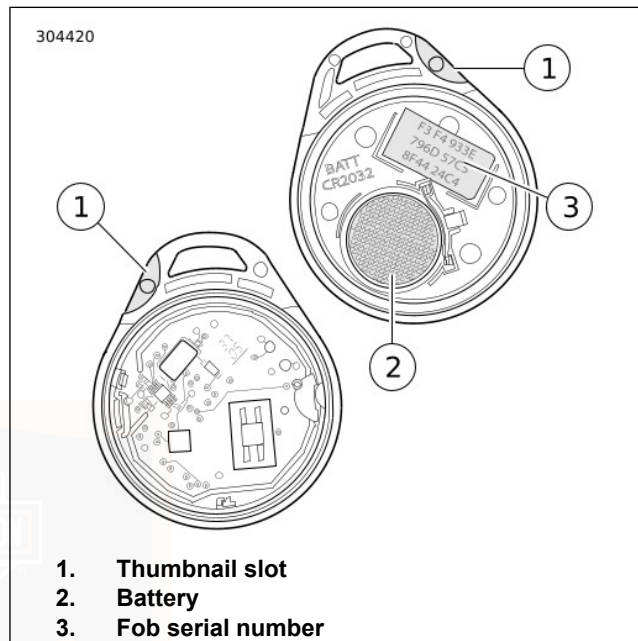

Figure 43. Hands-Free Fob Battery
1. See Figure 43. Slowly turn a thin blade in the thumbnail slot (1) on the side of the fob to separate the two halves.
2. Remove the battery (2) and discard.